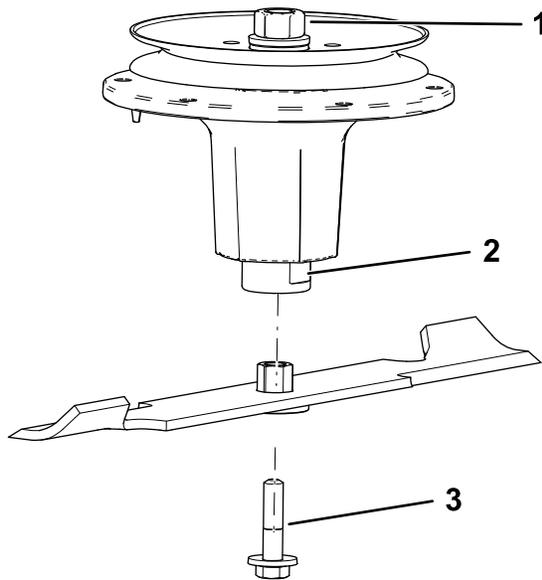

Figure 110
2. Install the bushing/blade assembly into the spindle shaft (Figure 110).